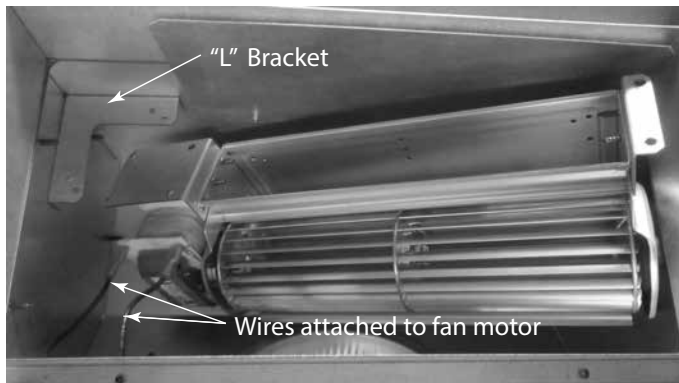

Figure 3.29
- Attach the (2) wires to the spade terminals on the motor.
- Insert fan into the fan housing starting with motor end first. Slip it below the “L” mounting bracket on the left side allowing the right side to drop in. See Figure 3.29.